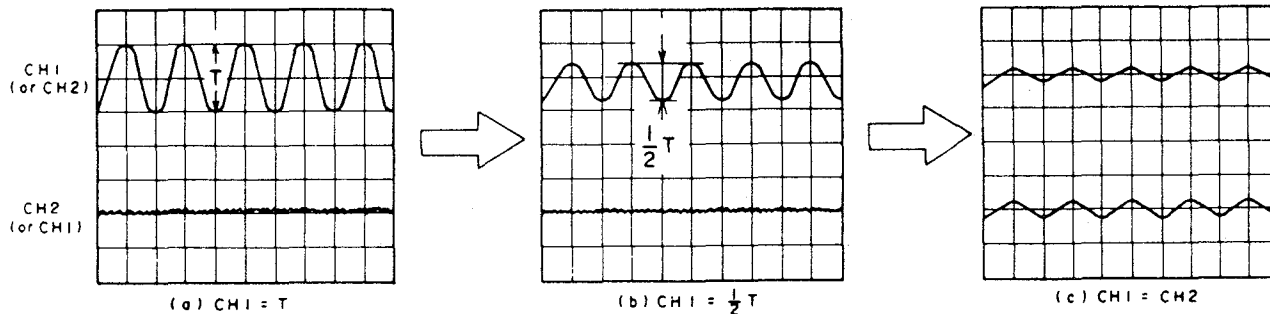

Fig. 4-14
- 3) Turn the hexagon screw to obtain 1/2 of the output level of either CH-1 or CH-2 whichever has an output signal as shown in Fig. 4-14. Then set both of the oscilloscope's channels to 100 mV/div and finely adjust the hexagon screw until both signals of CH-1 and CH-2 are nearly the same level.